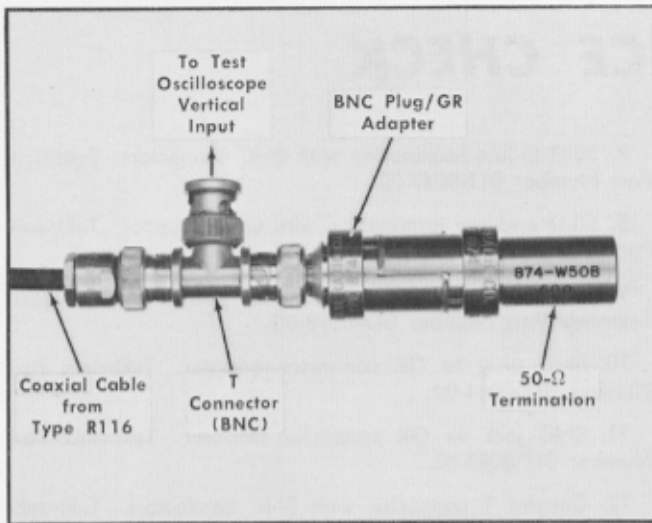

Fig. 6-1. Cable termination for connecting the Type R116 output pulse to the test oscilloscope vertical input.
5. Connect the Type R116 output pulse through a terminated 50- Ω coaxial cable to the channel A vertical input of the test oscilloscope, as shown in Fig. 6-1.